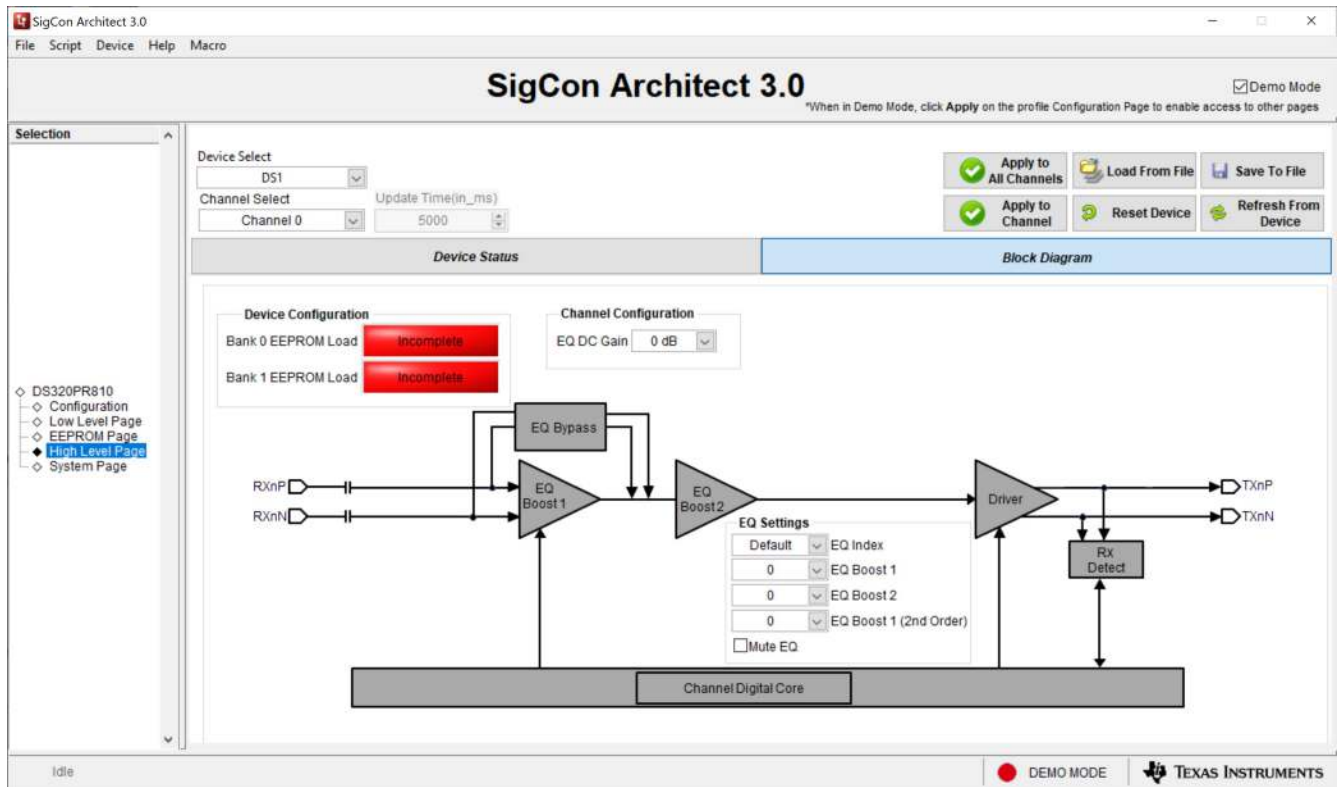

Figure 2-1. SigCon Architect DS320PR810 High-Level Page
12. In the DS320PR810 High Level Page, select Block Diagram as shown in Figure 2-1.